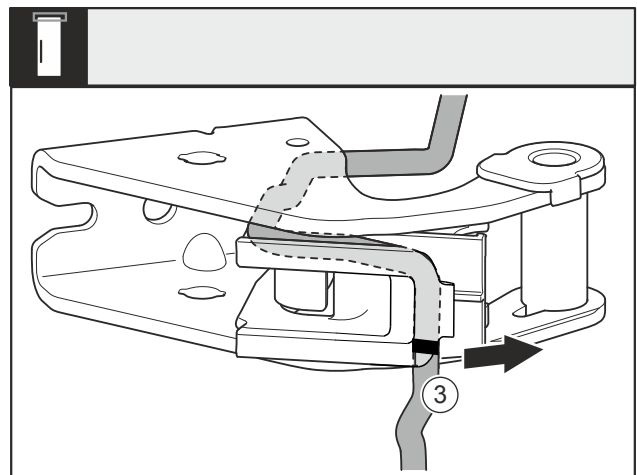

Fig. 26
- ▶ Remove the cable with the cable bracket Fig. 26 (3) from the swap bearing block.